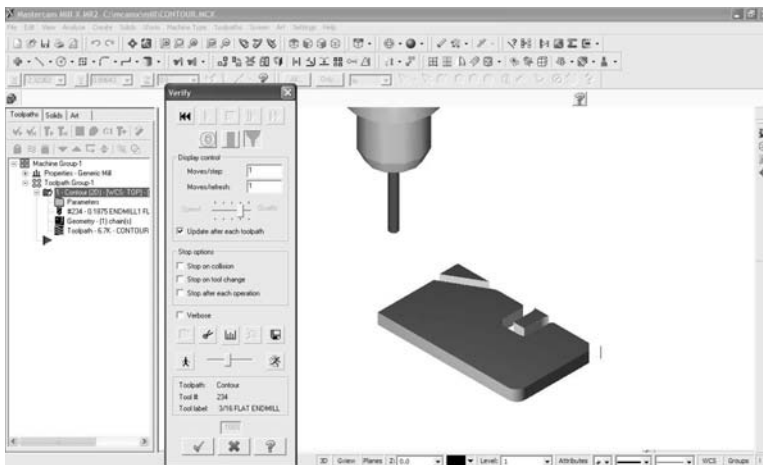

Figure 30 Verify Toolpath Simulation
- **Press the Machine button** (arrow pointing right) at the top of the Verify dialog to play the simulation. The speed with which the simulation runs can be controlled by adjusting the slider or pressing the Machine slowly or Machine quickly buttons. The resultant toolpath is simulated and should look similar to Figure 30.